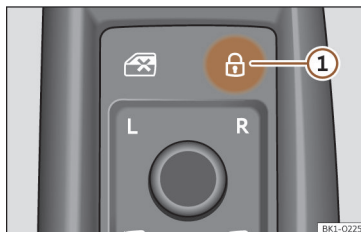

Fig. 74 On the driver's door: central locking button.
- Lock: press the  button >>> **Fig. 74.**
- Unlock: Press the  button >>> **Fig. 74** again.